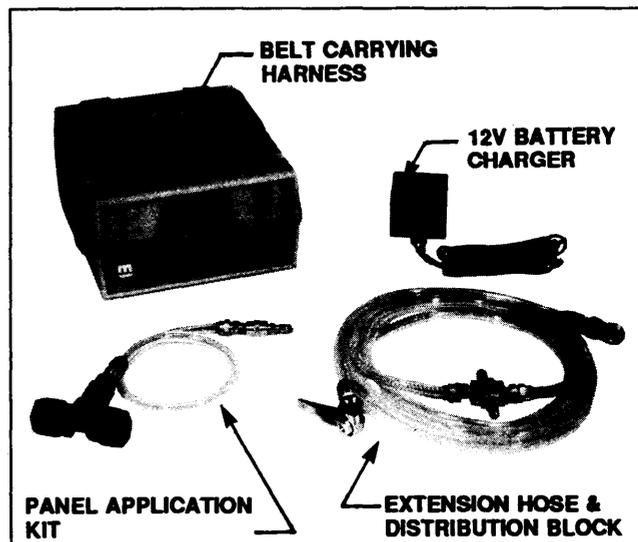
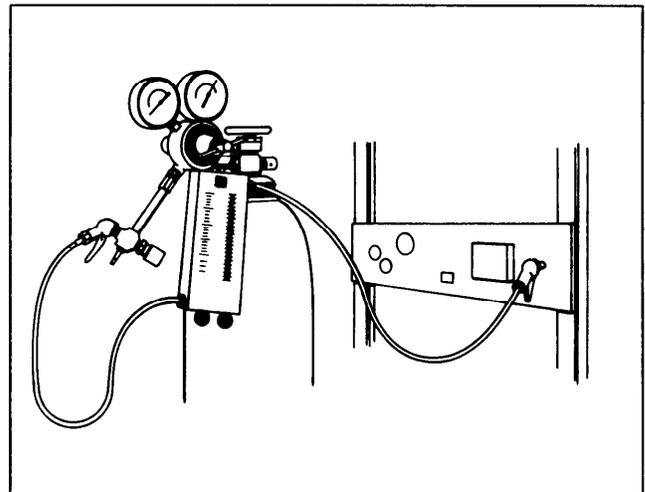

Fig. 3 - Other Accessories
Fig. 6 - Charging a Pipe System
1820A Helium Detector more convenient and effective(Fig. 3):
5.31 To heliumize underground systems feed helium from the central office pipe panel or distribution panel (Fig. 6). *When applying helium to a distribution panel, use the Mark Products Model 525, Helium Application Kit, Distribution Panel (Fig. 3). If you do not use this Kit or a locally assembled equivalent, some of the cables may not be charged with helium.*